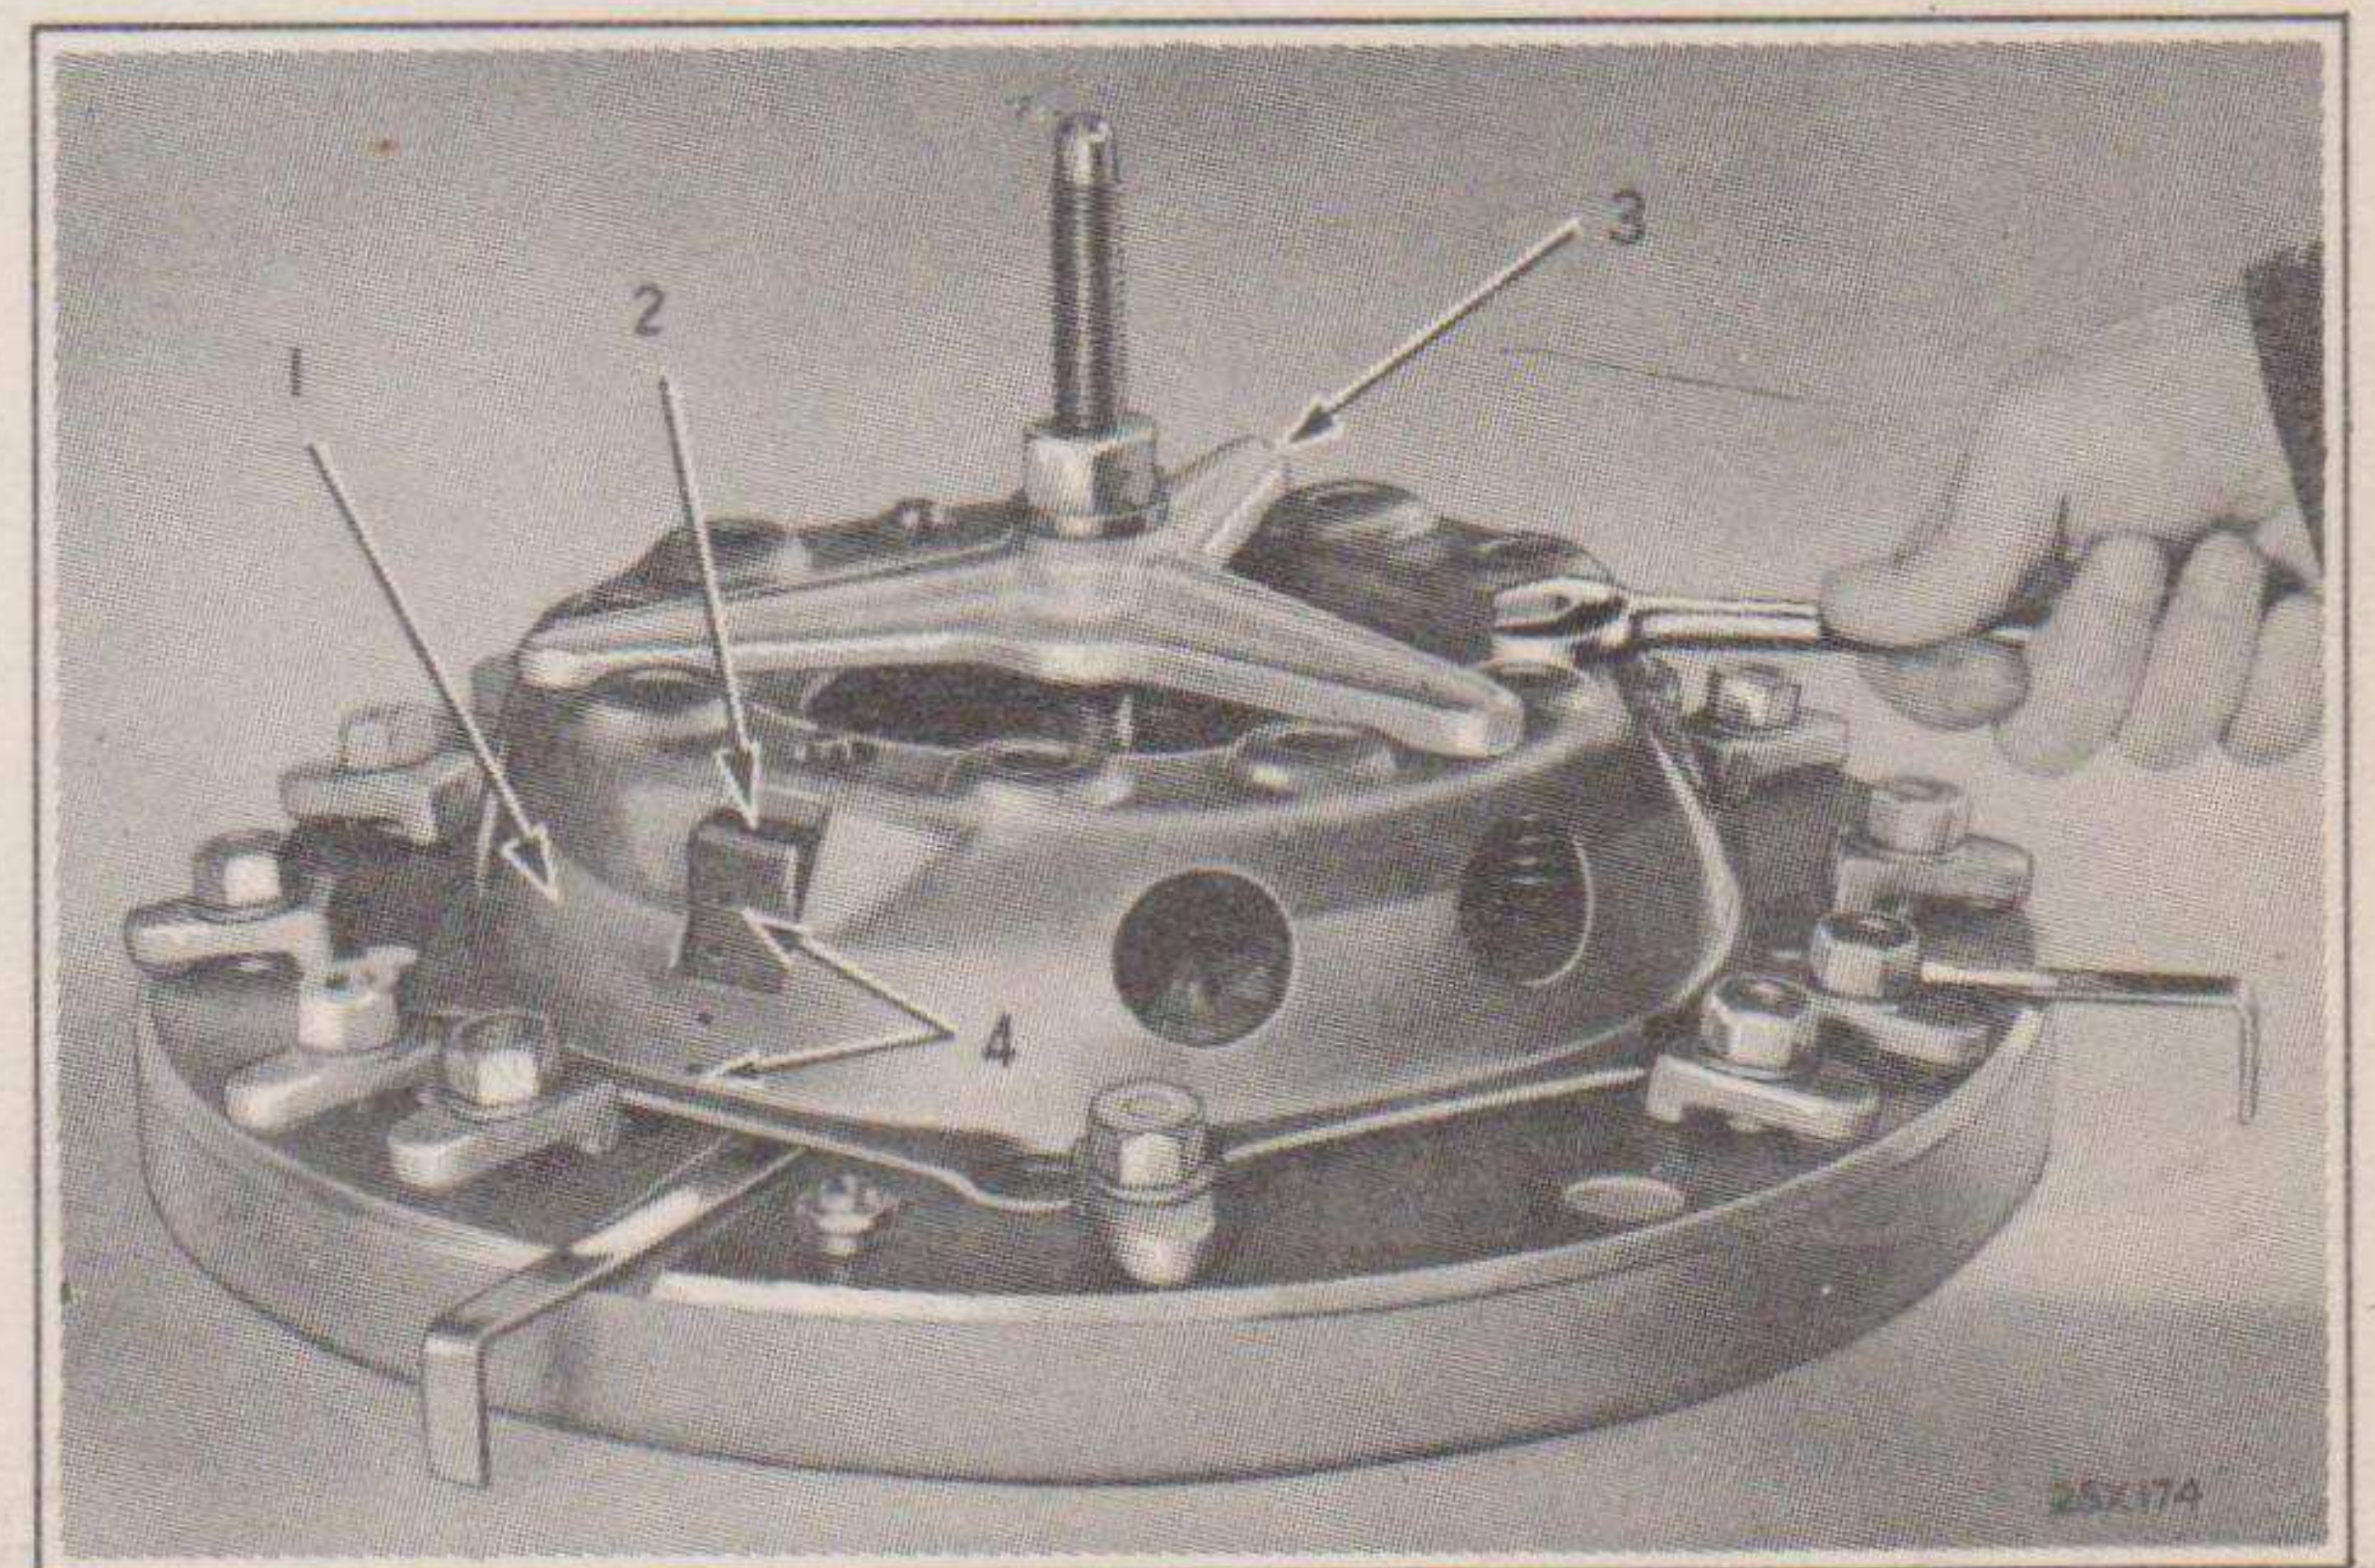

Fig. 91—Clutch Cover and Pressure Plate Assembly in Fixture
- (b) Mark the cover and pressure plate with a prick punch (4, Fig. 91) so that they may be assembled in their original position to maintain balance.
- (e) Install the plain thrust washer and the hexagonal compression nut and compress the springs by turning down the compression nut. See Fig. 91.
- (f) With the springs under compression, remove the clutch release lever eye bolt nuts (Fig. 91) and slowly relieve the spring pressure by unscrewing the compression nut.
- (d) Make sure the release lever springs are in position in the cover and place it over the pressure springs. At the same time match up the marks made on the cover and pressure plate (4, Fig. 91) to maintain balance of the assembly. The tops of the pressure springs should index with the embossed seats in the cover.